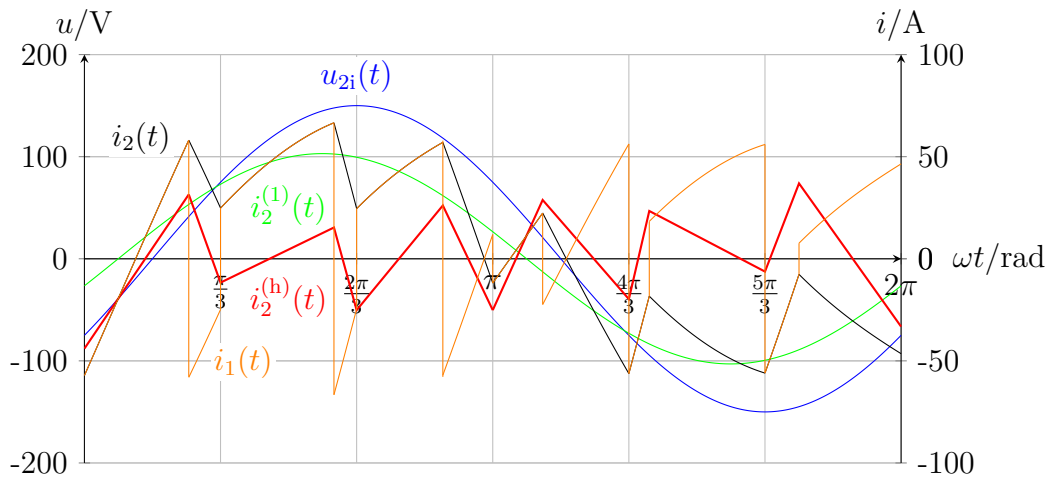

Figure 7.1.5: Output current $i_2(t)$, its fundamental component $i_2^{(1)}(t)$, its harmonics $i_2^{(h)}(t)$, and input current $i_1(t)$.
7.1.4 Draw the converter's output current $i_2(t)$, its fundamental component $i_2^{(1)}(t)$ and its harmonics $i_2^{(h)}(t)$ in Fig. 7.1.5.
7.1.5 Mark the input current $i_1(t)$ of the AC-DC converter in Fig. 7.1.5.
where $s(t)$ is the switching function. Fig. 7.1.5 shows the input current's trajectory compared to the output current $i_2(t)$.